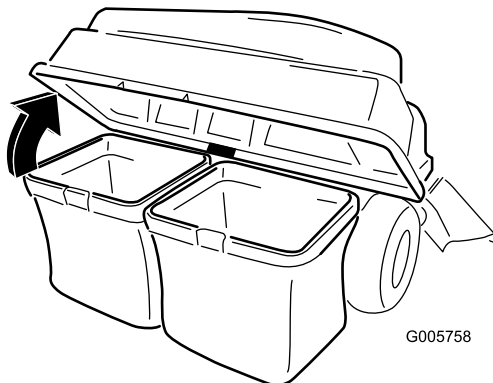

Figure 11
3. Open (raise) the bagger top (Figure 11).